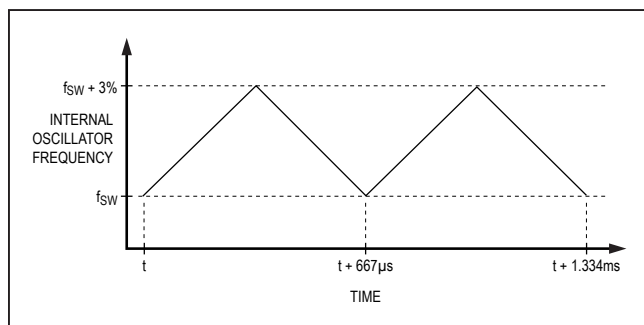

Figure 3. Effect of Spread Spectrum on Internal Oscillator
The PMICs feature a linear spread-spectrum (SS) operation, which varies the internal operating frequency between  $f_{SW}$  and  $(f_{SW} + 3\%)$ . The internal oscillator is frequency modulated at a rate of 1.5kHz with a frequency deviation of 3% (see Figure 3). This function does not apply to an oscillation frequency applied externally through the SYNC pin. Spread spectrum is a factory-selectable option. See the Selector Guide for available options.